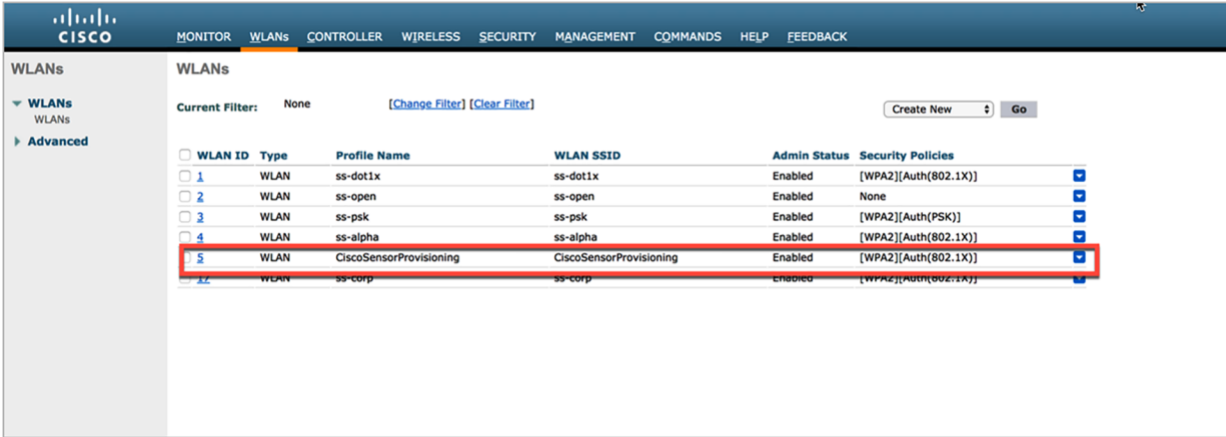

Figure 13.
- a. Enable the local EAP server with EAP-TLS to authenticate the sensor’s embedded certificate (**Figure 13.**).